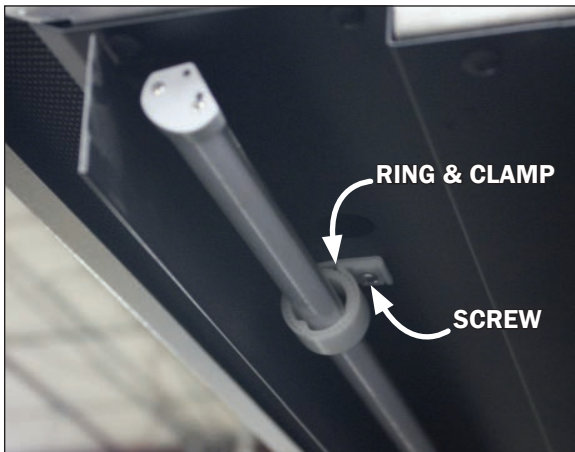

Fig. 6 LED light & ring/clamp
2. Remove the screws from the light clamps (Fig. 6) while keeping ahold of the light. Once the screws are removed the light rod will come away from the case with the clamps still holding to the light.